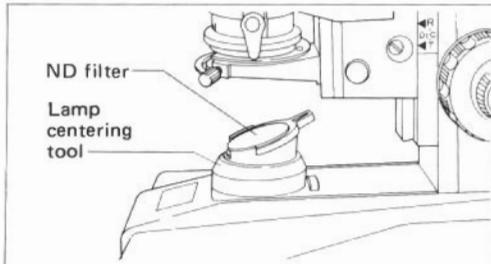

Fig. 4
- 5) Put the lamp centering tool on the field lens and onto the tool place a ND filter. (Fig. 4)